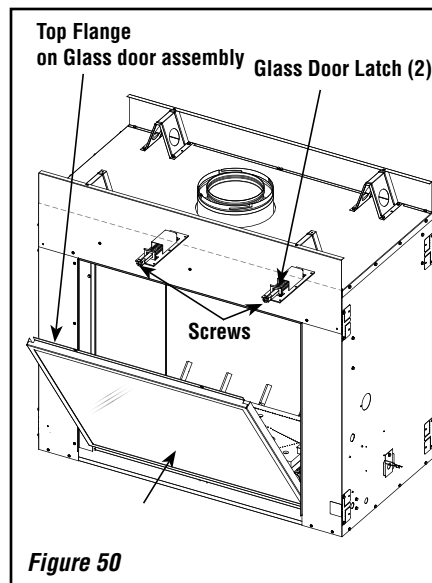

Figure 50
- b) Position the door in front of the firebox opening, with the top of the door held away from the fireplace (see **Figure 50**).
- d) Using a #3 Phillips screwdriver, fasten the door frame to the door latches with the two (2) latch screws. The latches should pull forward to engage the door frame.
- a) See **Figure 50. While holding the top of the glass door frame in place**, use a #3 Phillips screwdriver to remove the two (2) screws securing the door frame to the two (2) door latches.
- b) Carefully tilt the top of the glass door frame away from the unit (as shown in **Figure 50**), and then lift the door assembly up and out of the lower track.